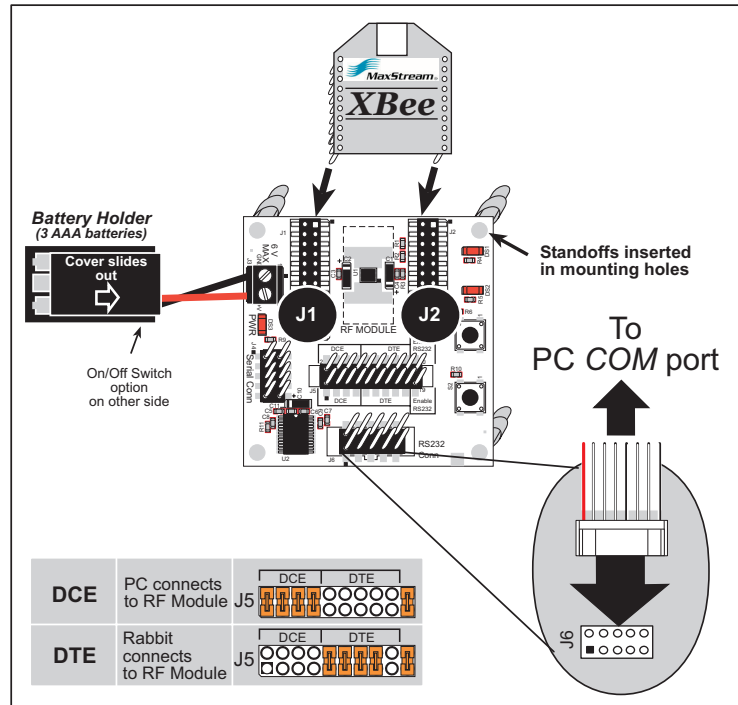

Figure 1. RF Interface Module Connections
4. Install 5 jumpers on header J5 for the DCE configuration shown in Figure 1.
You are now ready to load the three XBee™ RF modems with the new firmware. Repeat the remaining steps for each of the three RF Interface modules with their XBee™ RF modems installed and the programming cable connected to header J6 of the RF Interface modules. Remember to set the jumpers on header J5 for the DCE configuration shown in Figure 1.